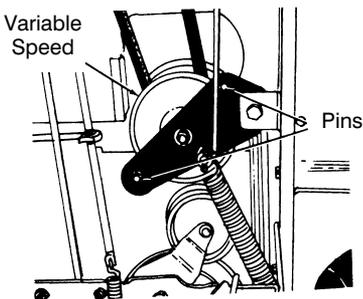

FIGURE 24
5. Remove nut and lockwasher from the bottom of belt keeper pin (stud) on the left side of the unit. Remove the belt keeper pin (stud). See figure 24.
**NOTE:** When reassembling, make certain belt is inside the pins. See figure 24.